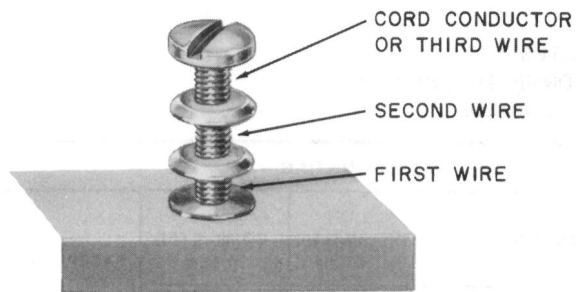

Fig. 5—Connecting Blocks, Terminations
3.02 Termination of cables, wires, and cords is shown in Fig. 5 and Tables C, D, and E.